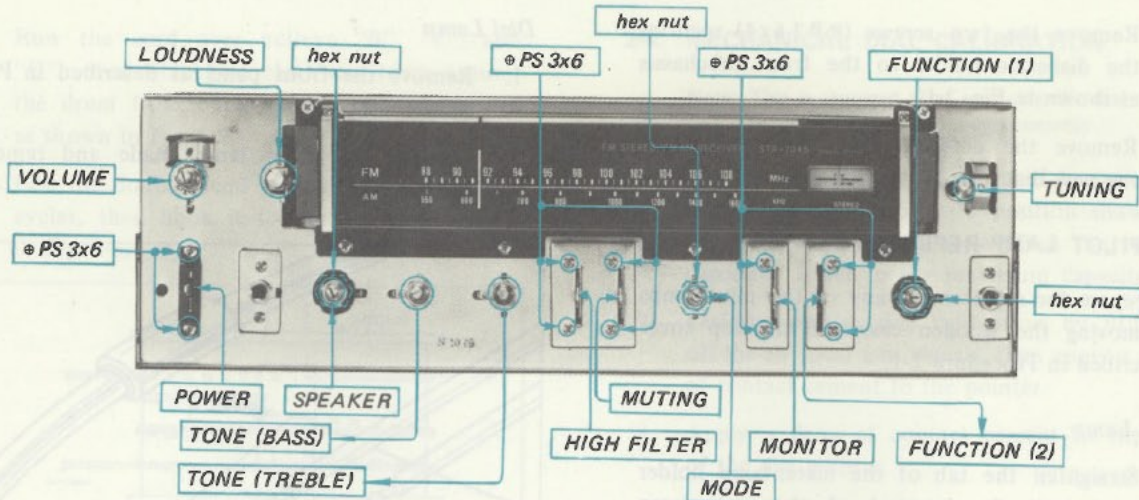

Fig. 2-14. Control and switch replacement
Prepare for replacing any of the controls or switches by removing the wooden case, the top cover and the front panel as described in Procedures 2-1 and 2-2. Refer to Fig. 2-14.
1. Remove the two screws (\oplus PS 3x6) securing switches to the front subchassis as shown in Fig. 2-14.
2. Remove the hex nut securing the switches to the front-subchassis as shown in Fig. 2-14.